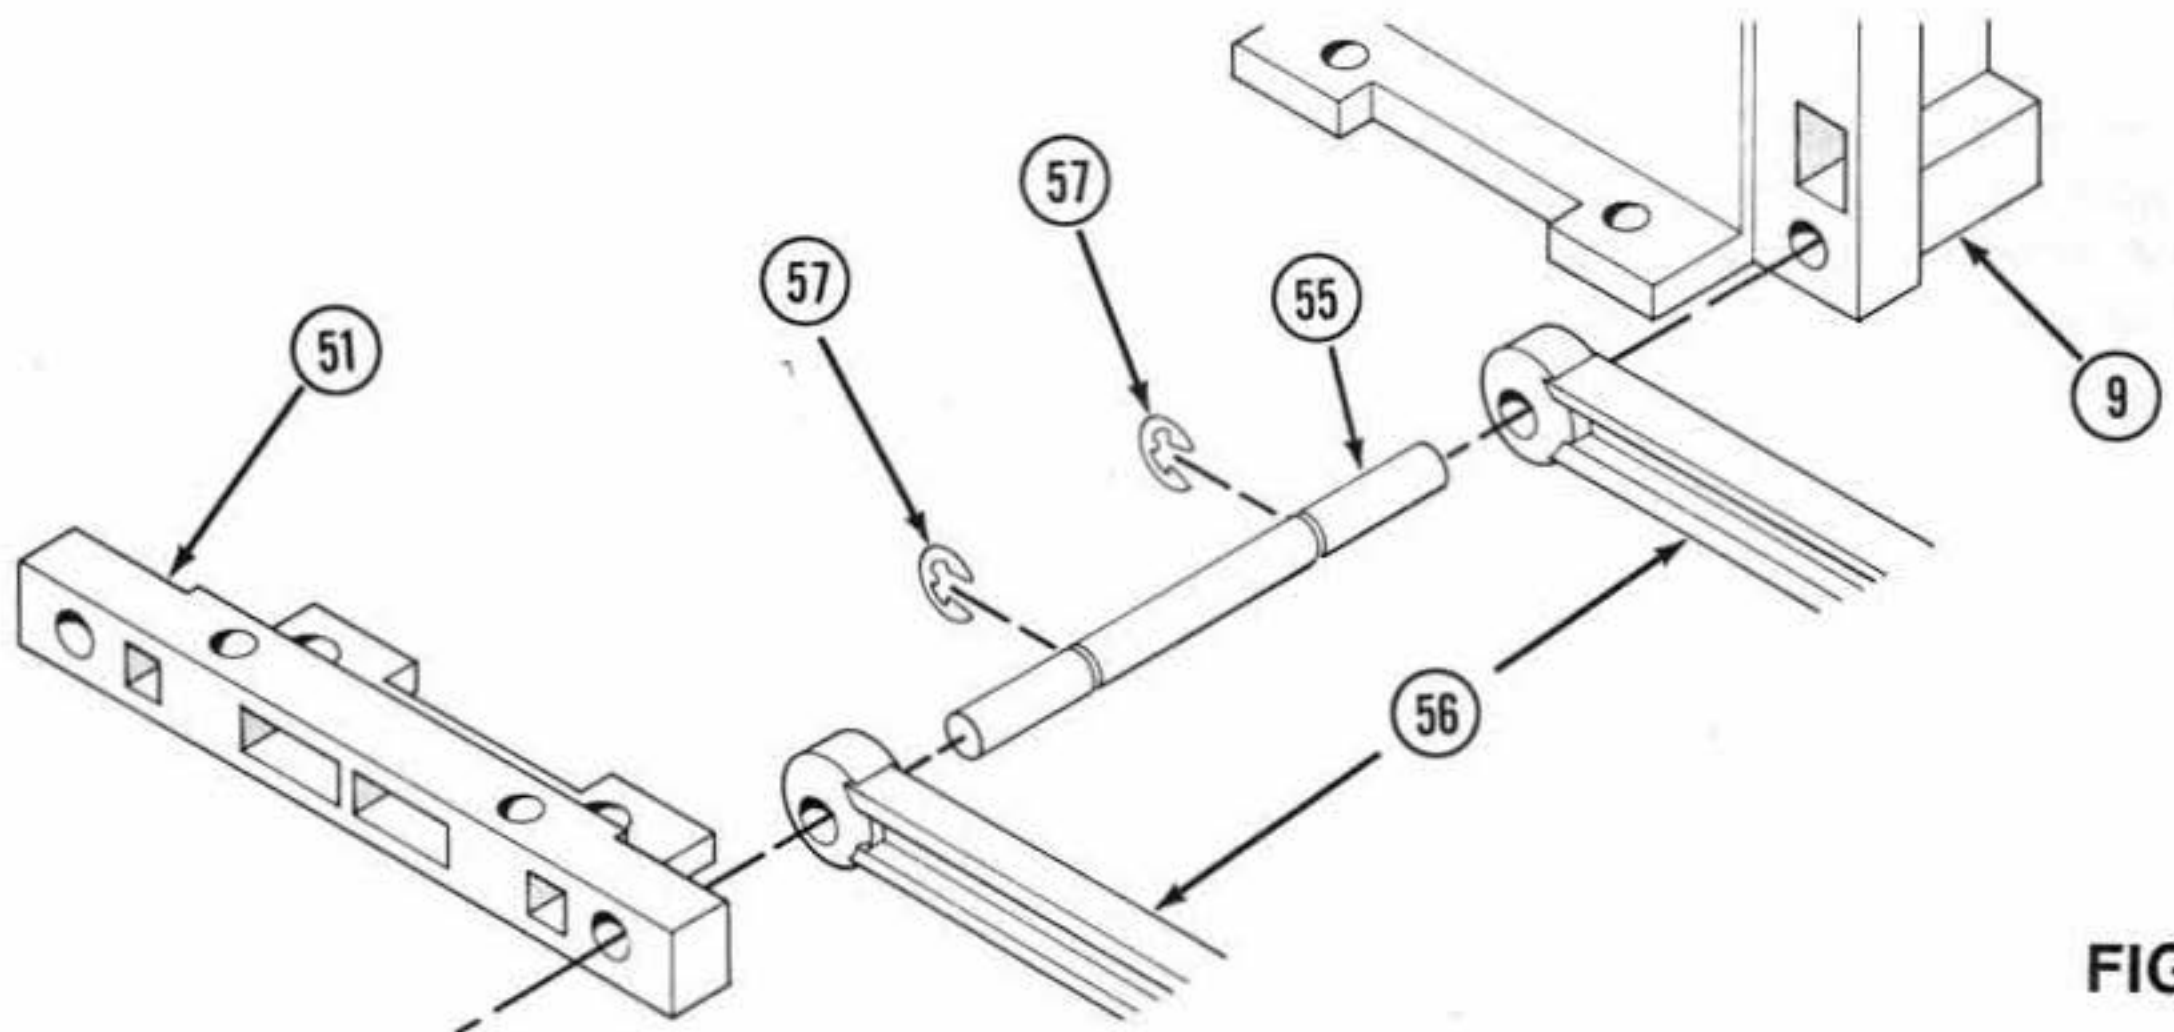

FIG. 22
18. Slide 1/8 X 1.785 hinge pin (55) through hole in rear pivot support (51) from rear to front. Fig.22
19. Once forward end of pin (55) is located half way between pivot support (51) and rear bulkhead (9), slide one end of link (56) down pin (55) to front of pivot support (51). Fig.22
20. Place 1/8" E-clip (57) on forward groove in pin (55). Fig.
21. Slide one end of link (56) down hinge pin (55) and up against 1/8" E-clip (57). Fig.22
22. Slide hinge pin (55) into rear bulkhead (9) so link (56) is secured between 1/8" E-clip (57) and rear bulkhead (9). Fig.22
23. Place second 1/8" E-clip (57) on rear groove in hinge pin (55) so that link (56) is located between front of pivot support and rear 1/8" E-clip (57). Fig.22